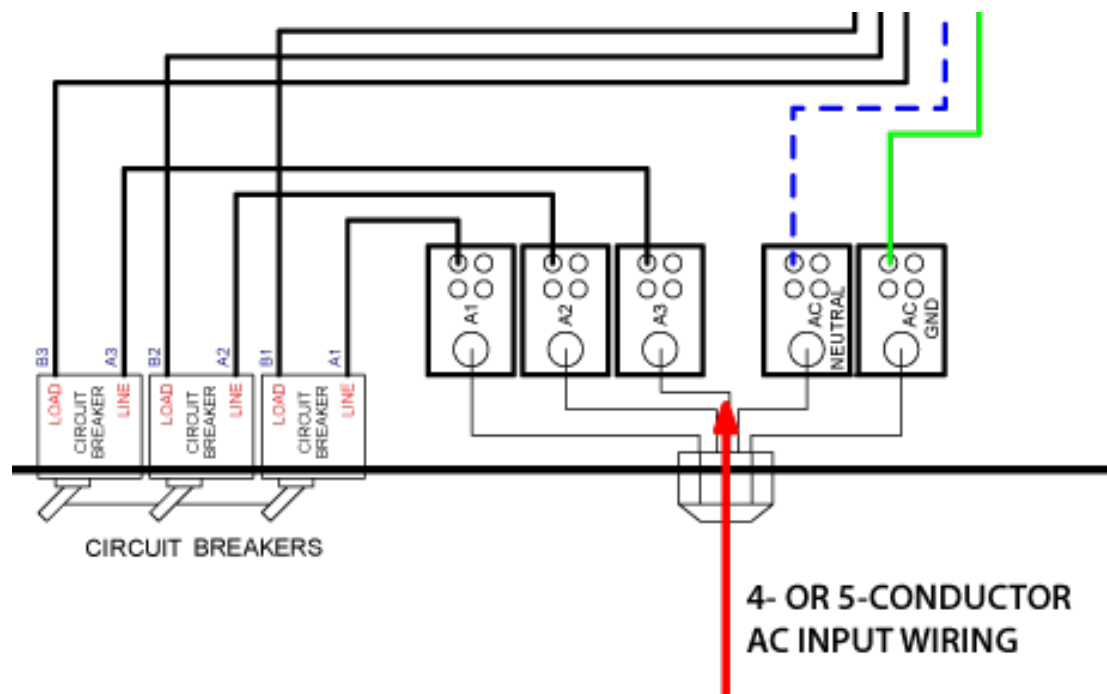

Figure 3.7 – Three-Phase AC Mains Wiring
5. Connect to the AC mains barrier strip as shown in **Figure 3.7**. See **Appendix B** for wiring diagrams of the complete AC power systems.